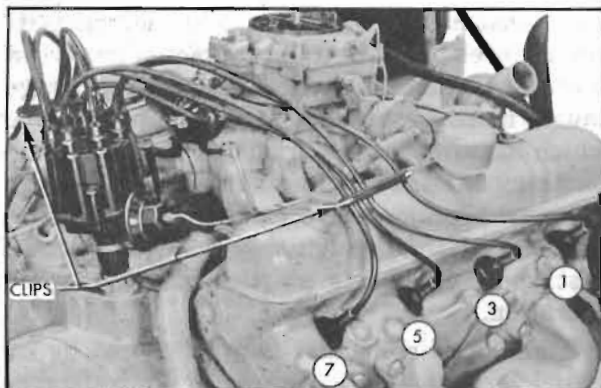

Figure 10-45—Installing Spark Plug Wires—Right Bank
5. Install distributor cap. Make sure that spark plug wires are correctly installed in distributor cap, through clips on rocker arm covers, and on spark plugs. See figures 10-45, 46 and 47.
Spark plug wires must be arranged to pass through the wire clips on the rocker arm covers in the same order as they are attached to the spark plugs. See figures 10-45 and 46. To insure correct arrangement in the clip, the spark plug wire numbers are stamped in the upper surface of the clip. If spark plug wires are not correctly installed, missing or cross-firing may result. For instance, No. 1 and 3 cylinders may cross-fire (since they fire consecutively) unless the rubber grommet is inserted